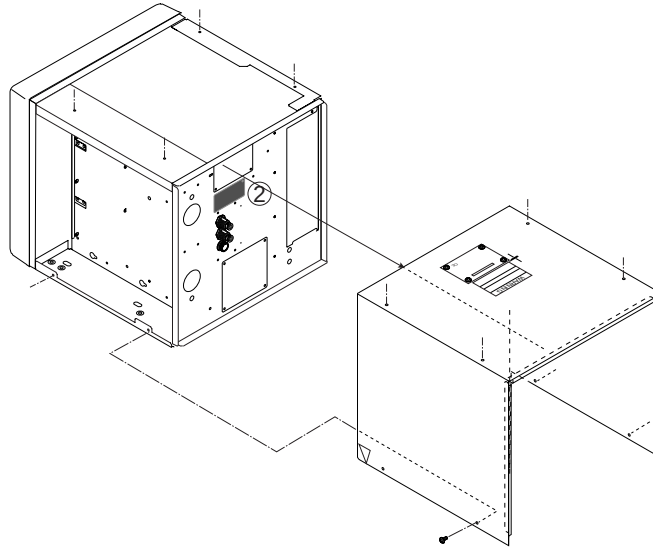

Figure 2-8 Display unit, removing cover
2. Unfasten four screws (M3X8) to remove the panel (2) shown in Figure 2-8.
3. At the location of panel (2), attach EXIF board assy (supplied as option kit) with four pan head screws (M3X10, supplied as option).